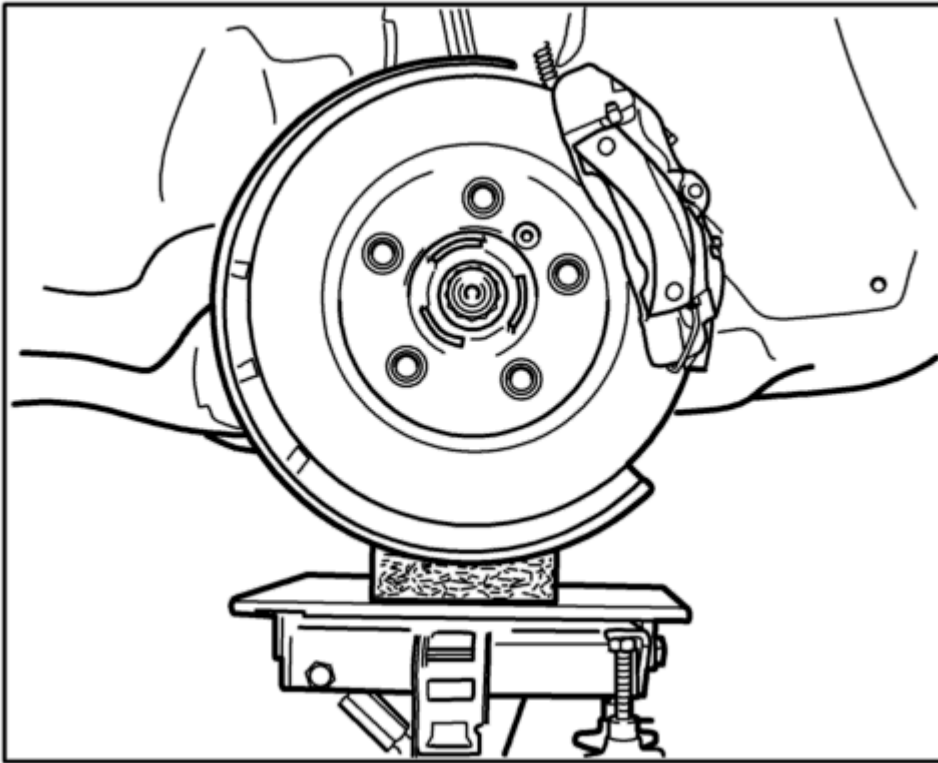

Fig. 68: Supporting wheel with rubber based lift (prevent slipping)
6. Remove the fastening screw for the connecting link/spring strut on the wheel carrier. To do this, use a suitable lift with rubber base in order to prevent slipping. Lay the connecting link aside. See **Fig. 68**.